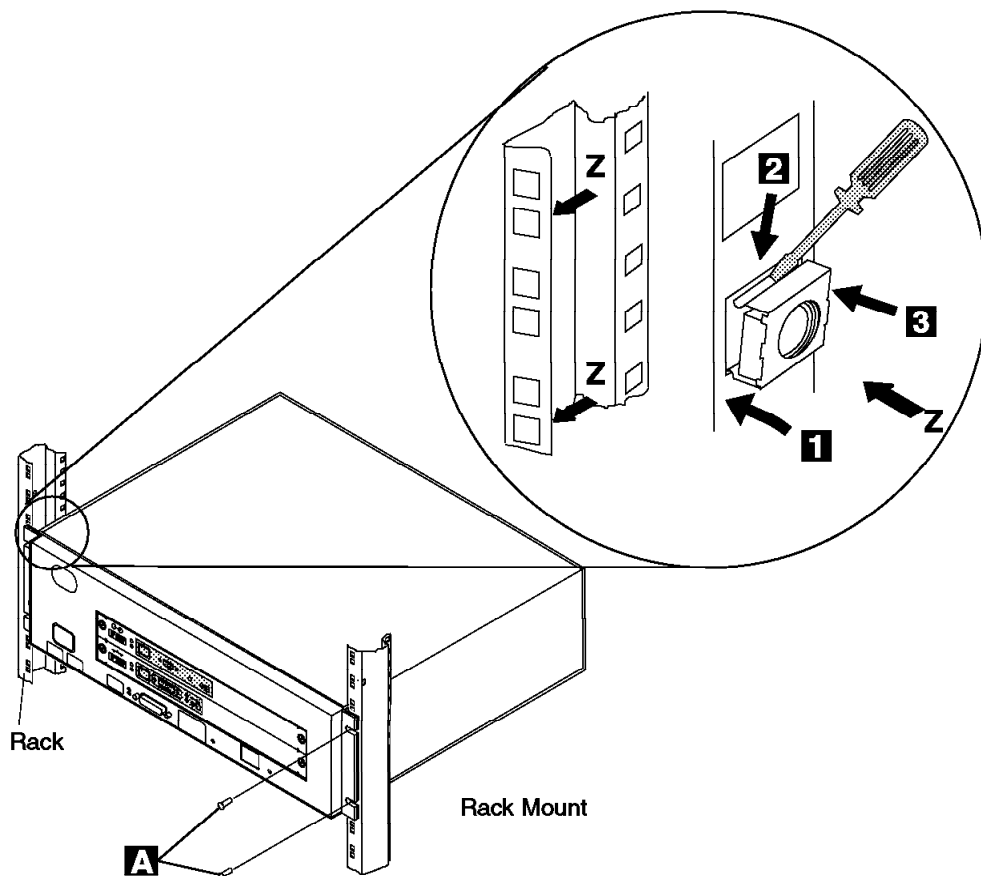

Figure 11. Captive Nuts and Ethernet Bridge Installation
- 4. Install four captive nuts **3** (PN 58G5766) in the proper locations **Z**, refer to Figure 11.
- ___ 7. Install 2 captive nuts (PN 58G5766) in the proper locations, refer to Figure 11 on page 22.